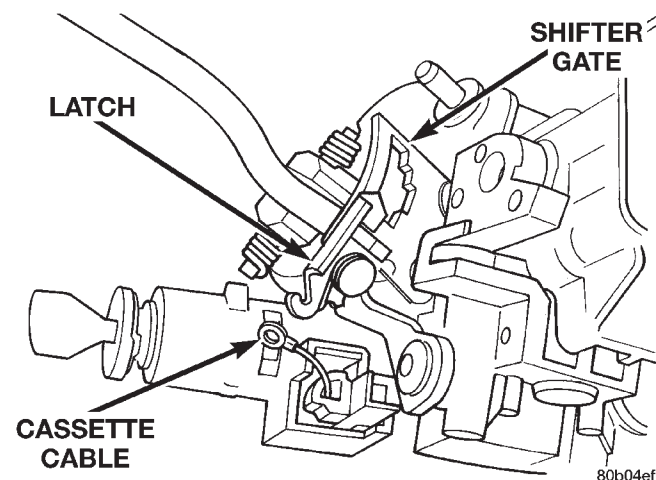

Fig. 28 Latch and Shifter Gate
- (1) Ensure the latch rotates freely on the shifter gate (Fig. 28).